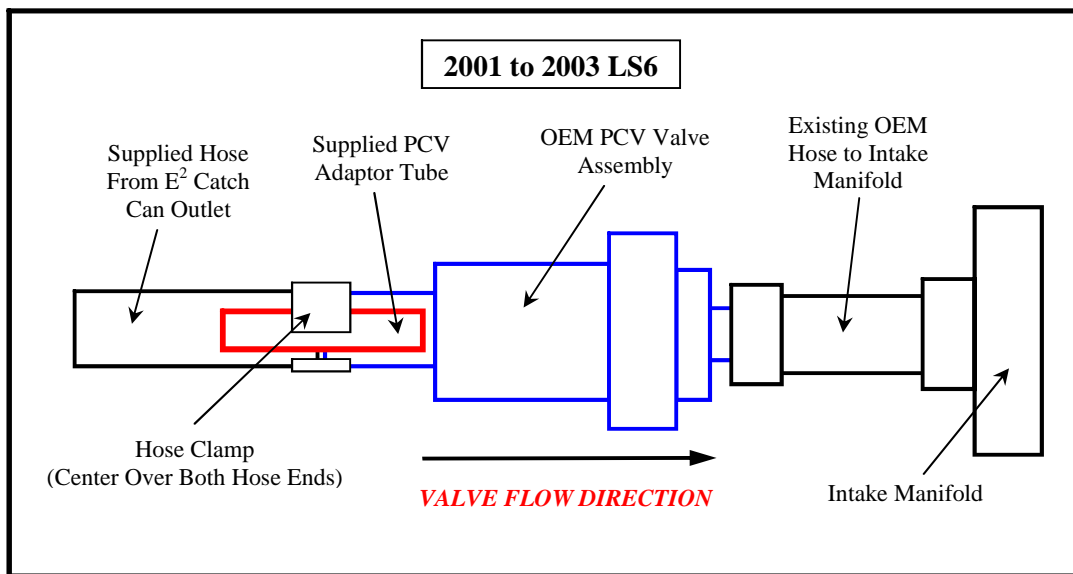

Figure 3 – LS6 PCV Valve Configuration
- (**Reference Figure 3**) Slide a supplied hose clamp over each end of the hoses cut above. Connect the hose from the valley cover hose fitting to the Catch Can inlet fitting (top location). Install the supplied 3/8" OD by 1.0" long adaptor tube half way into the OEM